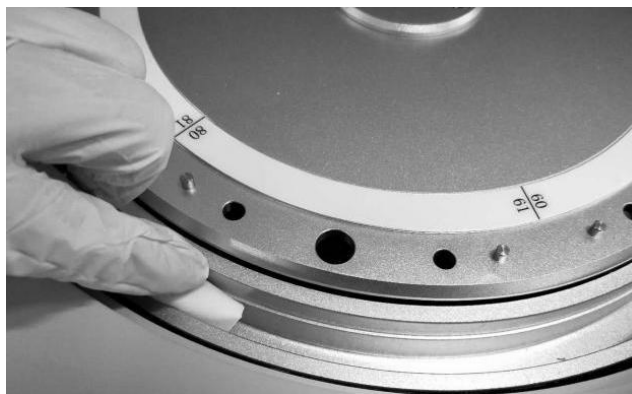

Figure 10-39 Wipe reaction tray
- (d) Wipe the reaction tank with a clean and wet gauze (not to wipe the photometric window), as shown in figure 10-39.